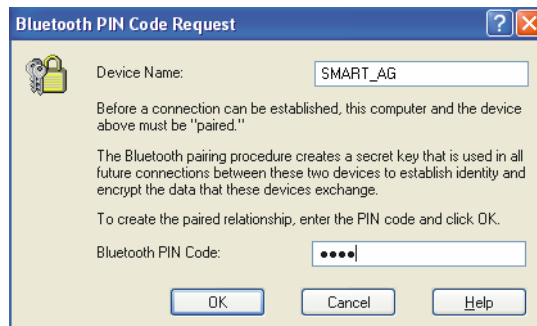

Figure 22: Bluetooth PIN Code Request
3. Enter the SMART-AG default pin number of four zeroes (0000), see *Figure 22* below: